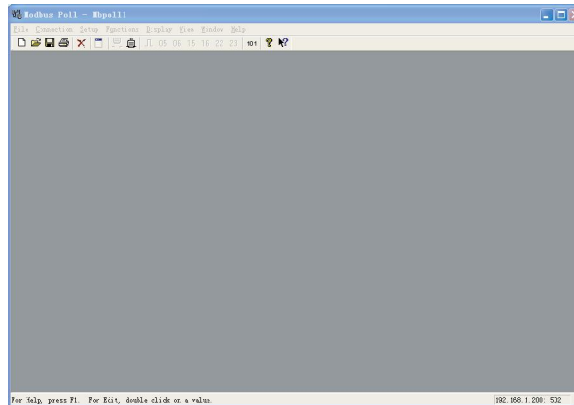

Fig.3.7
1) Choose "Connection" -> "Connection" in figure 3.7, and then chose TCP/IP in the pop-up window:
Choose button 16 in Fig.3.7,as shown below: